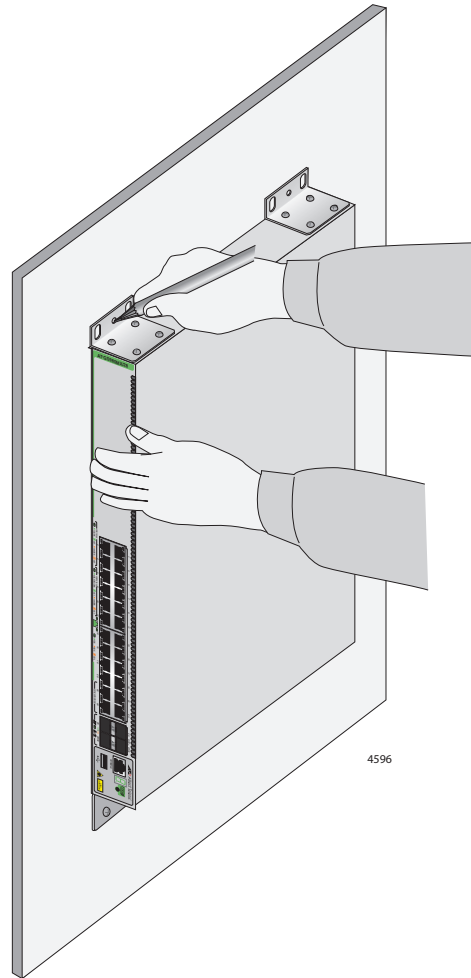

Figure 62. Marking the Locations of the Bracket Holes on a Concrete Wall
3. After attaching the brackets, have another person hold the switch on the concrete wall at the selected location for the device while you use a pencil or pen to mark the wall with the locations of the four screw holes in the four brackets (one screw per bracket). Refer to Figure 62 on page 107.